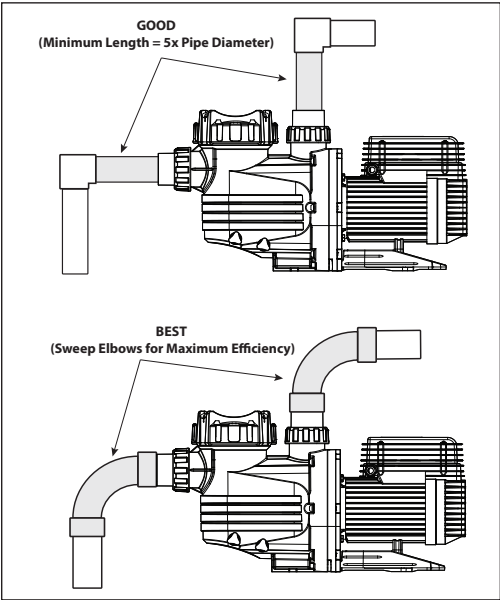

Figure 8. Proper Installation Examples
1. Use the fewest number of fittings possible to maximize plumbing flow efficiency. Use sweep elbows for 90 degree joints wherever possible (see Figure 8).